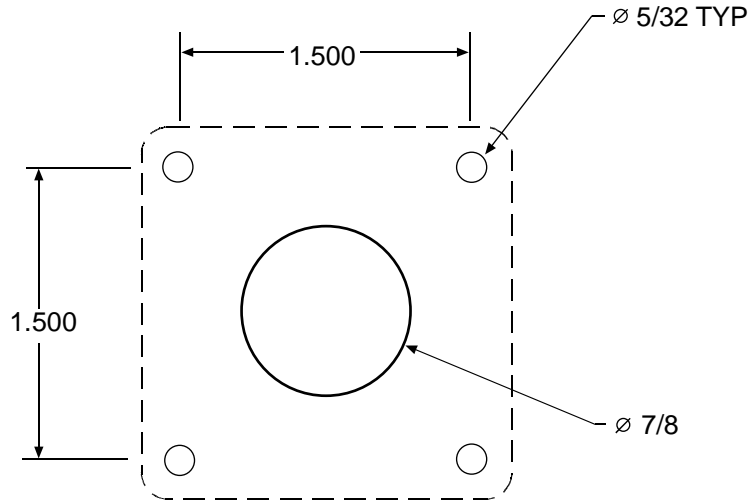

Figure 3: 40894G-XX Panel mounting template
2. Use the template in **Figure 3** to mark and drill the five holes.